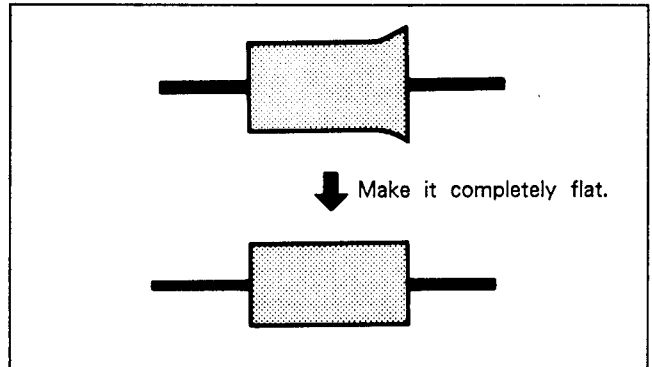

Fig. 7-83.
- 6) Turn No.4 guide so that waveform is flat. (See Fig. 7-83.)